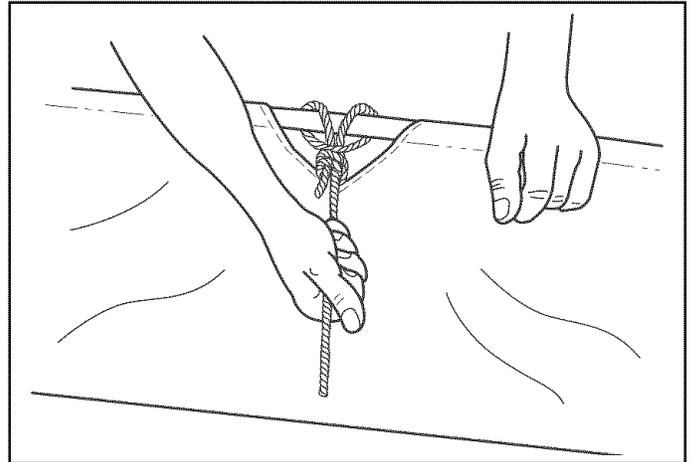

FIGURE 21
STEP 15: (SEE FIGURE 21 AND 22)